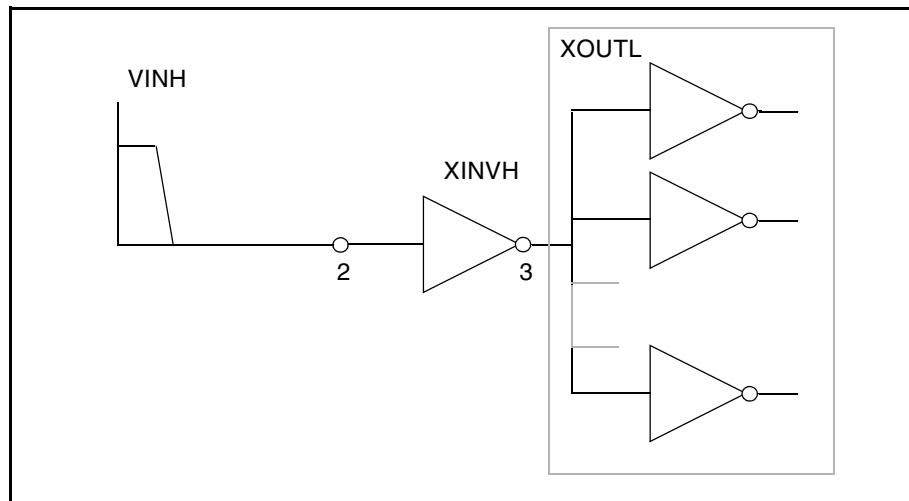
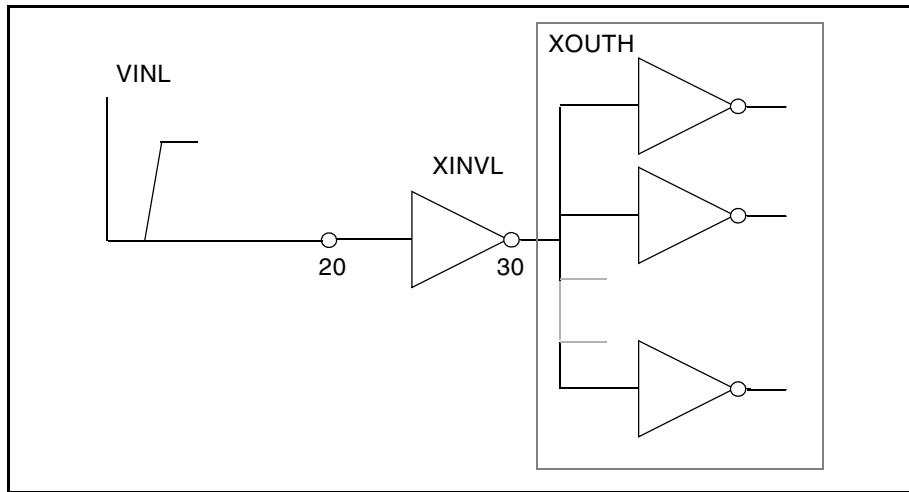

Figure 124 Cell Characterization Circuit 1
Figure 125 Cell Characterization Circuit 2
Figure 124 and Figure 125 are identical, except that their input signals are complementary.
- The circuit in Figure 124 calculates the rise time and the low-to-high propagation delay time.
- The circuit in Figure 125 calculates the fall time and the high-to-low propagation delay time.